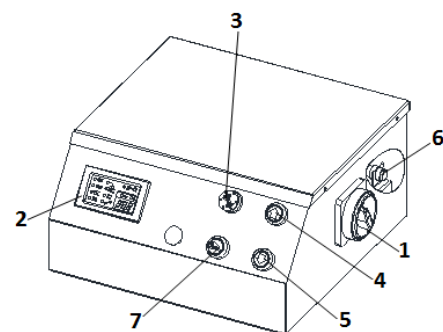

Fig. 6
3. Turn the main power switch (1, fig.6) to I (ON).
5. Now press the LIFT-button (4, fig.6) for at least 10 seconds, in case platform 1 does not raise, two of the phase wires are wrongly connected. Stop lifting immediately and switch two of the phase wires in the plug.
6. Raise platform 1 by pushing the LIFT-button (4, fig.6) and IGNORE-button (6,fig.6) simultaneously until the platform is fully raised.
7. Now lower platform 1 by pushing the LOWER-button (5,fig.6) and the IGNORE-button (6,fig.6), platform 1 will now lower.
11. Lift platform 2 by pushing the LIFT-button (4, fig.6) and IGNORE-button (6,fig.6) simultaneously until the platform is fully raised.
12. Now lower platform2 by pushing the LOWER-button (5,fig.6) and the IGNORE-button (6,fig.6), platform 2 will now lower.
15. Now press the PARK-button (7, fig.6).
16. Now press the LIFT-button (4,fig.6) to raise the platforms out of the mechanical locks, then lower them by pushing the LOWER-button (5, fig.6).
1. Lift both platforms approximately 150 cm and lock both platforms by pushing the PARK-button (7, fig.6). **PLEASE NOTE! The platforms must be at the same height!**